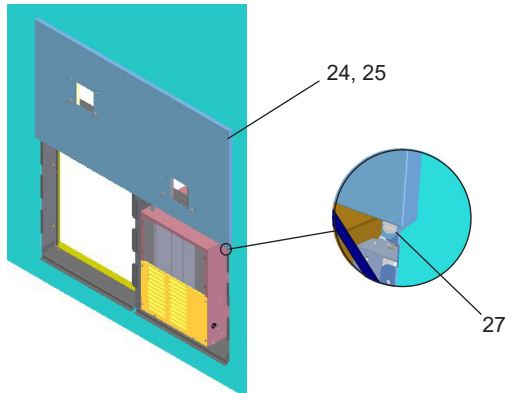
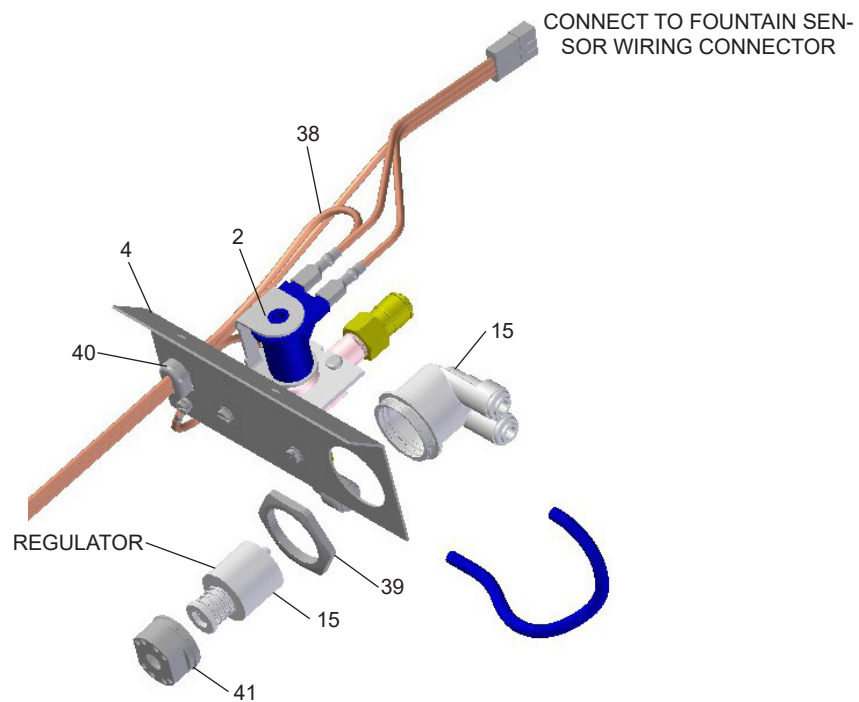

Figure 4 - Upper Panel Installation
Figure 8 - Regulator Assembly (Item 7)
5. **Hang** the upper panel on the mounting frame hanger. Be sure that the panel is engaged with hanger at the top of frame before releasing it. Align holes in the panel with holes in the mounting frame. Install two (2) #10-24 x 5/8" (16mm) screws (Item 27 - Figure 4) in holes and tighten securely.
10. **Connect power cord of sensor to solenoid valve assembly by running it through the back panel and connecting it to terminal as shown in Fig. 8.**
For **Electronic sensor units only**, remove lower panel (Item 26 - Fig. 4) and turn adjustment screw on the regulator (Item 16 - Fig. 8). Clockwise adjustment will raise stream height and counterclockwise movement will lower stream height. For best adjustment stream should hit basin approximately 6-1/2" from the bubbler.